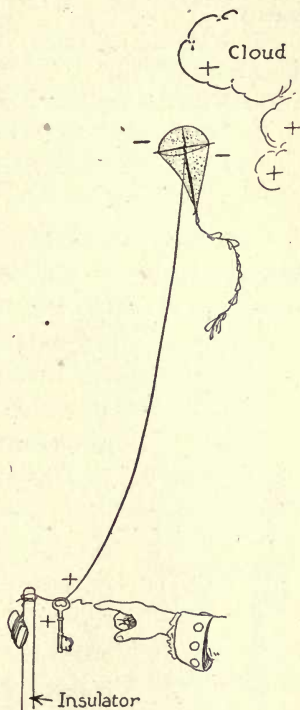

FIG. 169. — Franklin's Experiment to Test the Identity of Lightning.
**Atmospheric Electricity.** — It was Benjamin Franklin who first demonstrated that lightning is simply a great spark of frictional electricity. On the approach of a thunderstorm he sent up a kite having at its top a pointed metal rod. The kite string was insulated from the earth. As soon as this string became moistened by the rain electric sparks were drawn from a key attached to the string. These sparks proved to be the same as those obtained by rubbing a glass rod with silk (Figure 169).